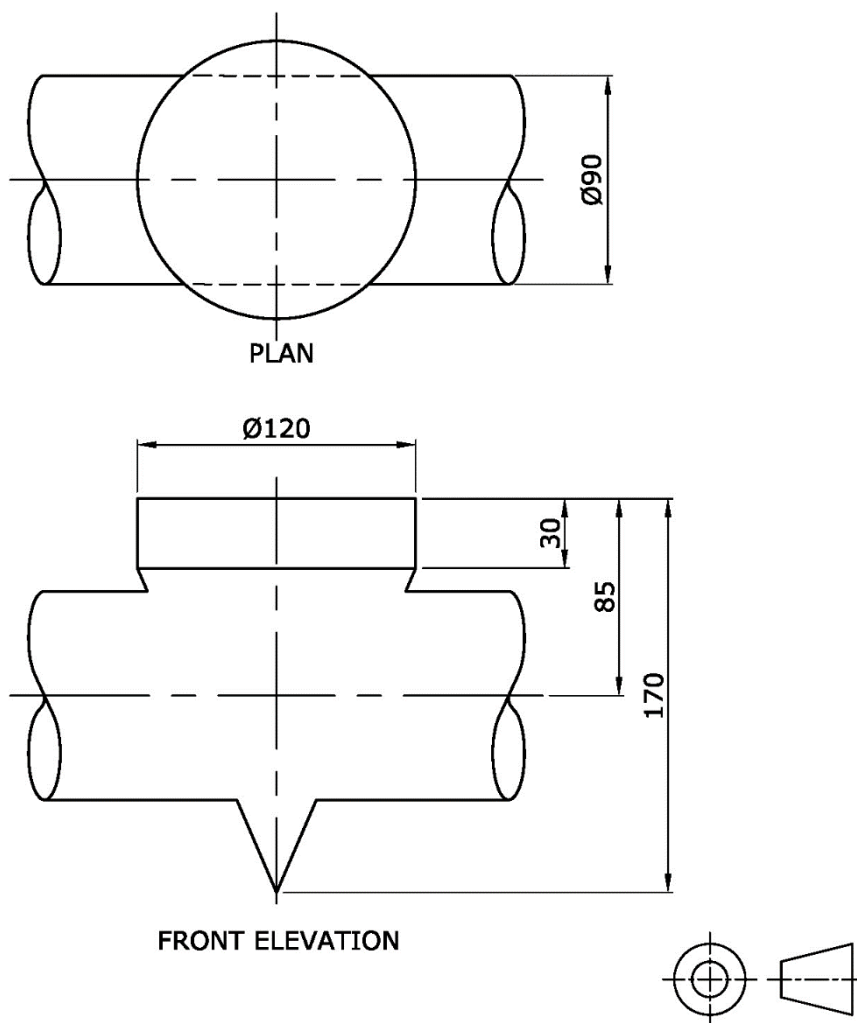

Figure 4b
- a) Copy, full size, the **TWO** views shown in Figure 4b. (2)
- b) Project an end elevation as seen from the right-hand side, of the funnel. (2)
- c) Construct, using neat light lines, the curve of intersection between the cylinder and the inverted cone on the front elevation. (4)
- d) Project from the front elevation and construct the curve of intersection onto the plan. (5)